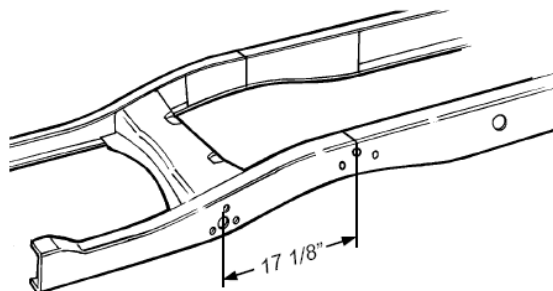

Figure 2- Axle Centerline
4. Measure back 17 1/8" from the center of the front shackle pivot and make a mark. Now scribe those marks completely around the frame rails. Those scribed lines are the axle centerline for the new crossmember. See **Figure 2**.